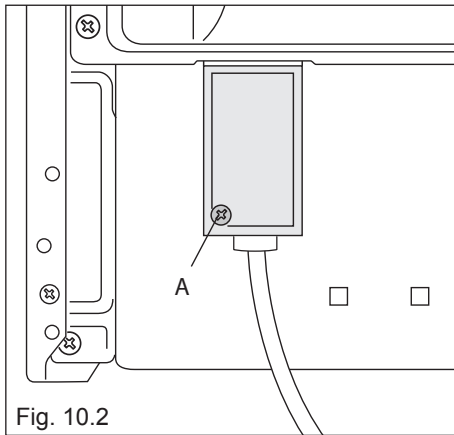

Fig. 10.2
- Remove the screw securing the cover “A” on the rear of the cooker (fig. 10.2).